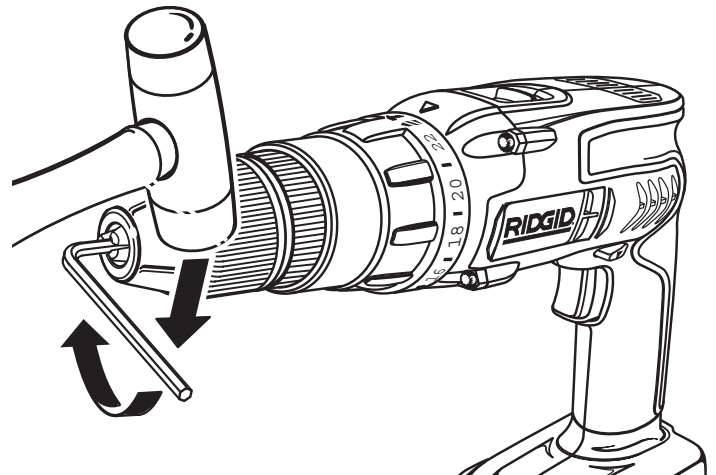

Fig. 17
See Figures 17, 18, and 19.
- Tap the hex key sharply with a mallet in a clockwise direction. See Figure 17. This will loosen the screw in the chuck for easy removal.
- Insert the hex key into the chuck and tighten chuck jaws securely. Tap the hex key sharply with a mallet in a clockwise direction. This will tighten the chuck on the spindle. See *Figure 17*.